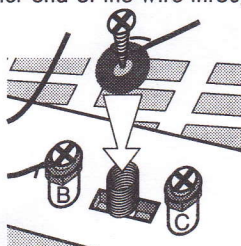

FIG. 8
- 3) Take the red, loose wire and wrap the uninsulated part of the wire around the screw, so that the wire rests between the washer and the head of the screw. Now tighten the screw into the slider. Push the other end of the wire through the hole marked "2". (Figure 8)